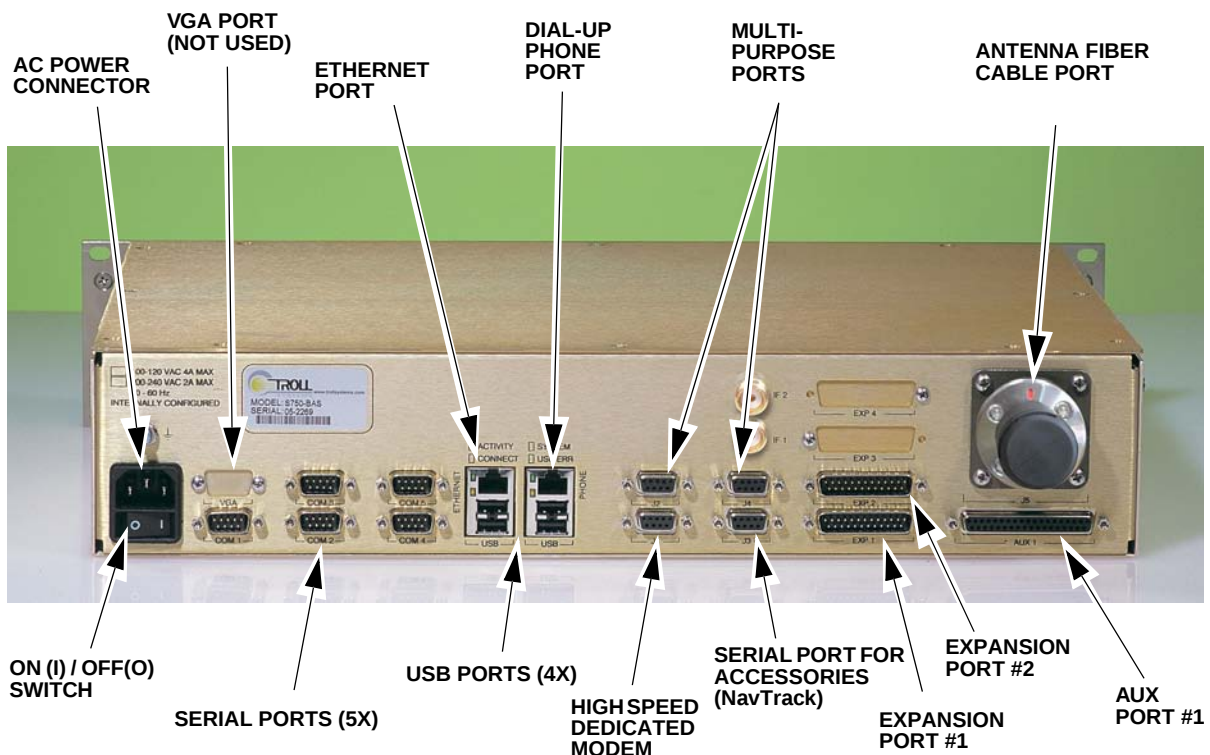

Figure 2-4. S750 Rear Panel Connector Configuration
The rear panel (Figure 2-4) has several device connection options. Many of the key connections are summarized in the following list.
1. Flip the power switch on the S750 controller (located on the back panel of the controller (refer to Figure 2-4). The | symbol on the controller power switch indicates ON while the O symbol indicates OFF.